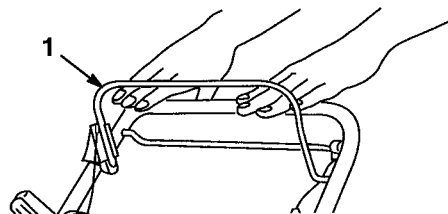

Figure 13
2. Release blade control bail (Fig. 13). Both the engine and blade will stop. See your dealer immediately if they do not.